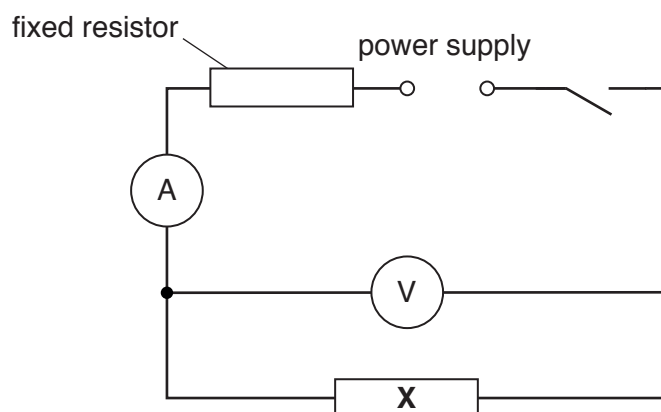

Fig. 2.1
- (v) Sufficient connecting leads to set up the circuit shown in Fig. 2.1.
2. The circuit is to be set up for candidates as shown in Fig. 2.1. The fixed resistor is to remain in the circuit during the experiment.
Connect the circuit as shown in Fig. 2.1. Ensure that resistor **X** is connected in the circuit. Check that the circuit is working.